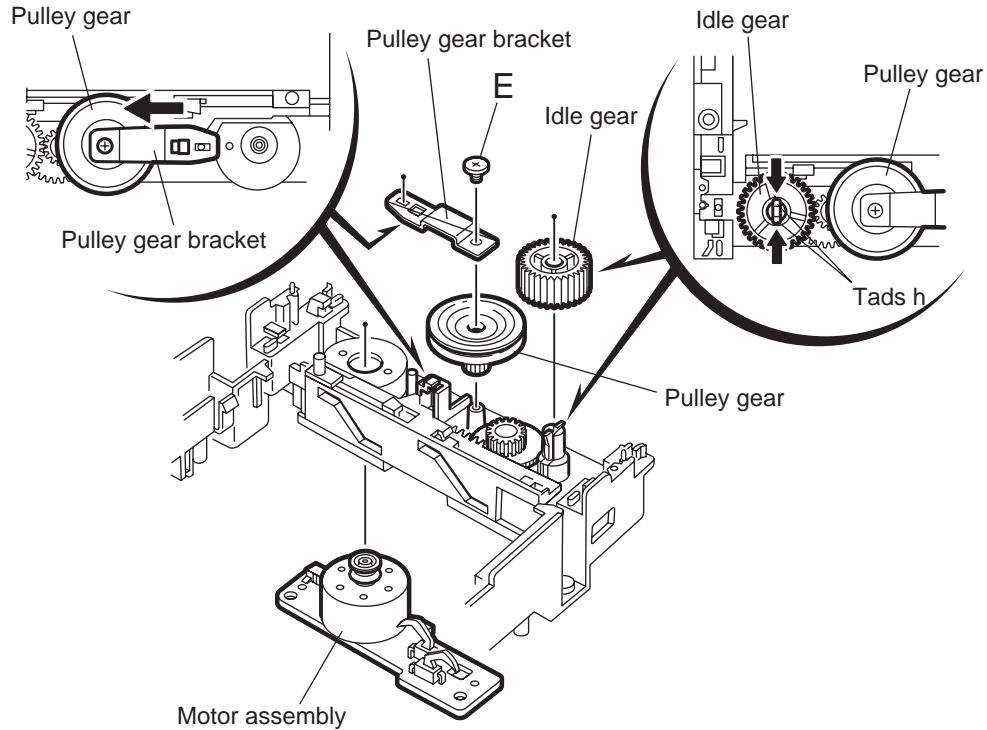

Fig.2-4-1i
2.4.1.6 Removing the Idle gear/pully gear/middle gear/slitecam (See Fig.2-4-1i to 2-4-1k)